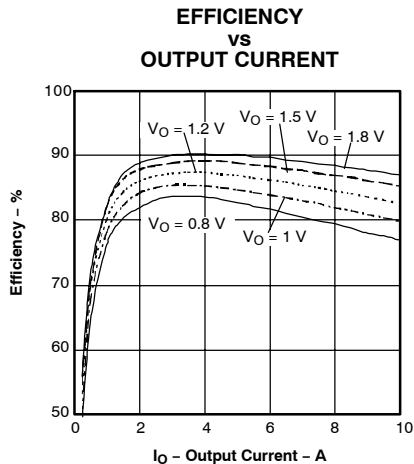
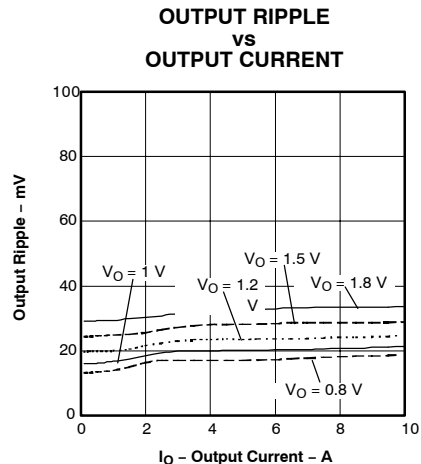
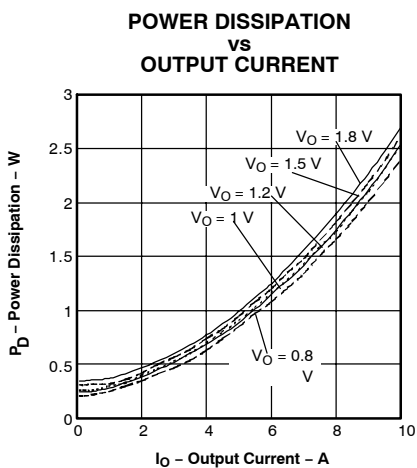

Figure 5.
Figure 6.
Figure 7.
- (1) Characteristic data has been developed from actual products tested at 25°C. This data is considered typical data for the Converter. Applies to Figure 5, Figure 6, and Figure 7.